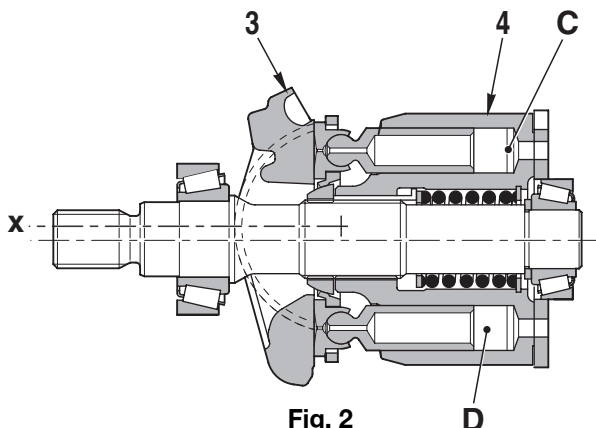

Fig. 2
3 - When the axis X of the swash plate (3) is parallel to the axis of the cylinder block (4) (swash plate angle « $\alpha$ »=0), the difference between the volumes C and D inside the cylinder block (6) is zero and no oil is pumped (Fig. 2).